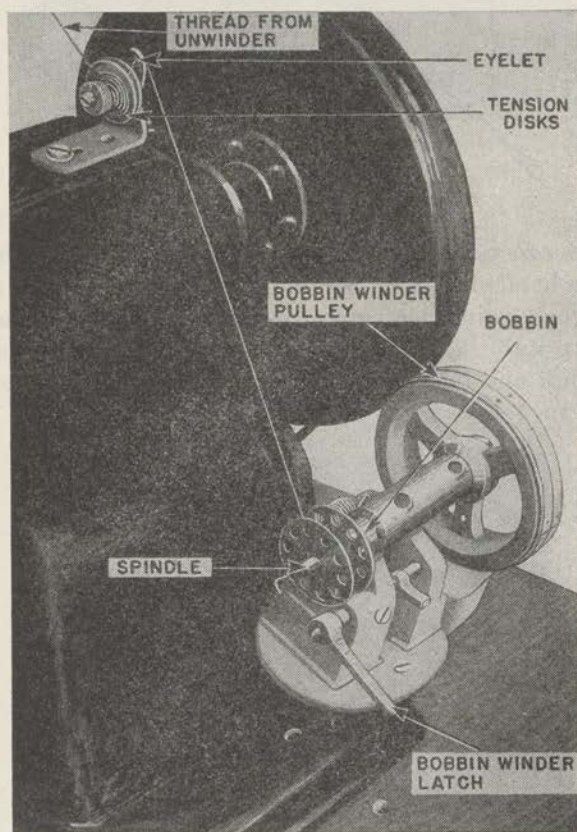

FIGURE 93.—Winding bobbin.
g. To wind bobbin (fig. 93).—To wind the bobbin, place the bobbin on the bobbin-winder spindle and push it up against the shoulder until it is in line with the bobbin-winder latch. Drawing the thread from the unwinder, pass it under and between the tension disks, through the eyelet, and a few times around the bobbin. Push the bobbin-winder pulley against the balance wheel and press the